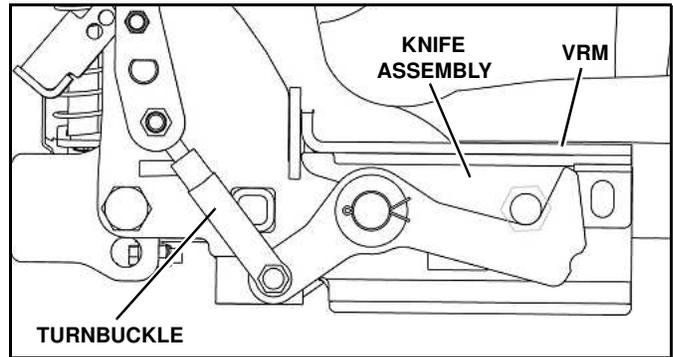

Figure 1-31
5. Once mounted, raise and lock the engagement handle. (See Figure 1-31).
NOTE: Turnbuckles are set to an approximate length from factory. Further adjustment may be needed after installation. Over extending the turnbuckle could cause the handle to become difficult to rotate completely. Periodically the turnbuckle will need to be adjusted due to wear and tear of the VRM. (See Figure 1-31 and Figure 1-32).